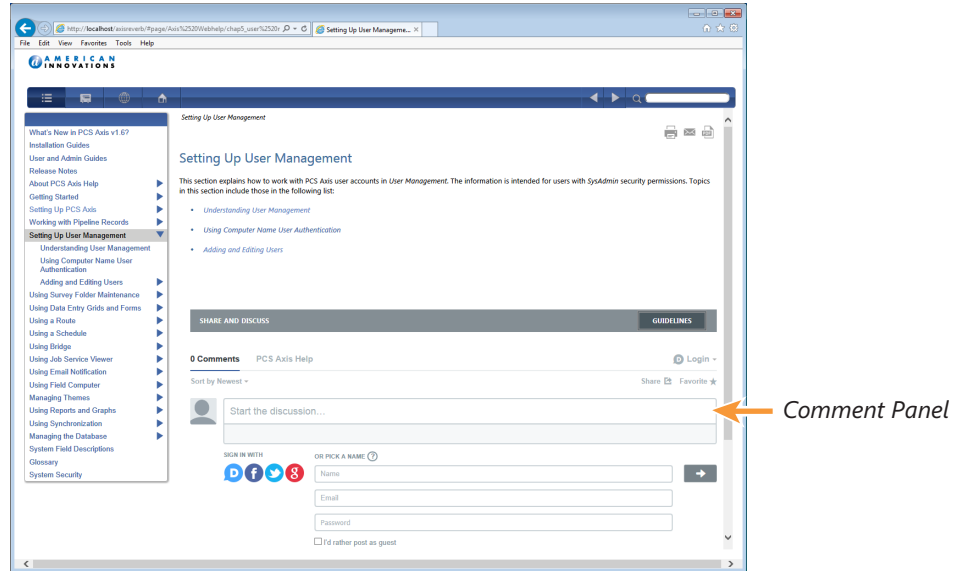

Figure 1-4. Posting a Comment as a Guest
- 2** In the comment panel of the selected help topic, type a comment in the **Start the discussion** text box (Figure 1-4, page 10).
- a** Click the **Name** text box to display fields requiring data entry (Figure 1-4, page 10).